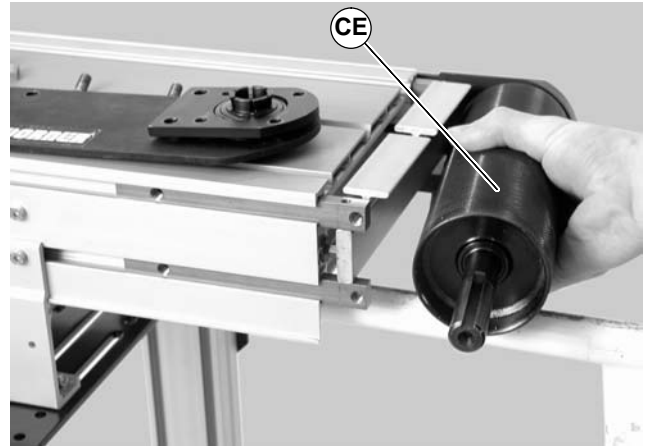

Figure 63
7. Slide the drive pulley (CE of Figure 63) out of the headplate on the opposite side.